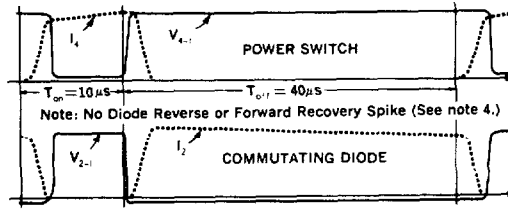

Figure 2. PIC645, 646, 647 Switching Waveforms
- No reverse recovery spike generated by commutating diode (See note 4. and Fig. 2.)
- In switching an inductive load, the current will lead the voltage on turn-on and lag the voltage on turn-off (see Figure 2). Therefore, Voltage Delay Time (t_{dv}) = t_{di} + t_{ri} and Current Storage Time (t_{si}) = t_{sv} + t_{fv} .
- As can be seen from the switching waveforms shown in Figure 2, no reverse of forward recovery spike is generated by the commutating diode during switching! This reduces self-generated noise, since no current spike is fed through the switching regulator. It also improves efficiency and reliability, since the power switch only carries current during turn-on.